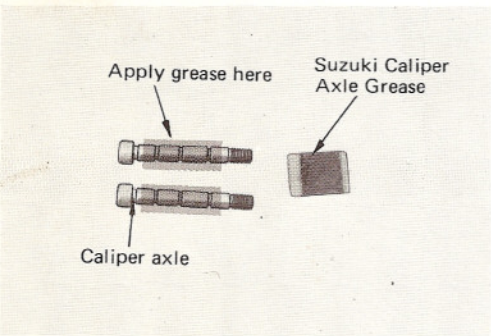

Fig. 4-4-8
- 1) Apply Suzuki Caliper Axle Grease with property of high heat resistance onto the caliper axle as shown in Fig. 4-4-8.